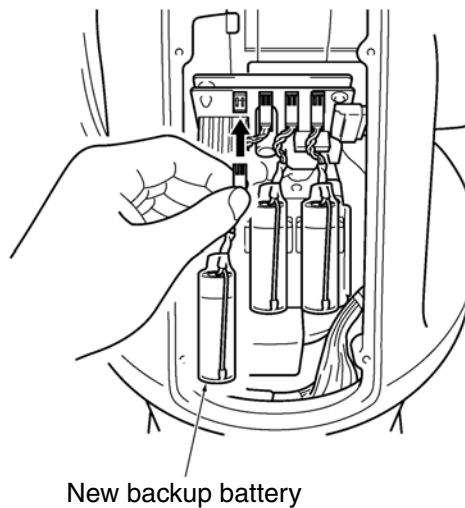

Figure 6-4. Connecting First New Battery
5. Connect a new battery (1st one) to the pin from which you have disconnected the dummy connector cap in Step 4. See Figure 6-4.